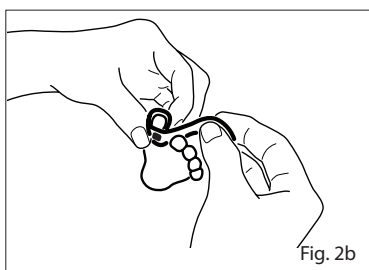

Fig. 2b
3. Refer to Fig. 2b. Wrap the adhesive wrap around the toe so the emitter is positioned on the nailbed of the great toe. Complete coverage of the detector window is needed to ensure accurate data.